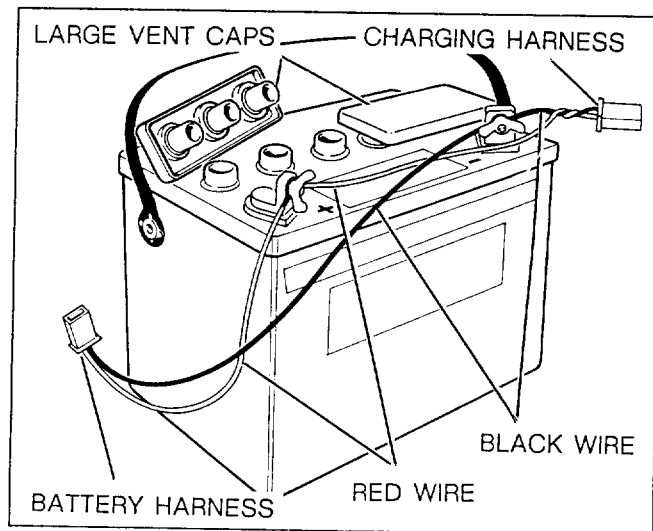

Figure 1
1. 17005 and 17046 -- Slide two carriage bolts through connectors at end of charging harness. Connect the positive –red wire– to the positive (+) battery terminal and the negative –black wire– to the negative (–) battery terminal (Fig.1). Assure that charging harness connectors are on inside of battery terminals; then secure these parts in place with two wing nuts (Fig.1). Twist plug at end charging harness three times (Fig.1).
2. 17002 and 17033 -- Slide two carriage bolts through connectors at end of charging harness. Connect the positive –red wire– to the positive (+) battery terminal and the negative –black wire– to the negative (–) battery terminal (Fig.1). Next, connect
the red wire of battery harness to positive (+) terminal battery bolt and black wire to negative (–) terminal bolt (Fig.1). Assure that charging harness connectors are on inside of battery terminals, and battery harness connectors are on outside of terminals (Fig.1). Secure all parts in place with two wing nuts (Fig.1). Twist plug end of charging harness three times.